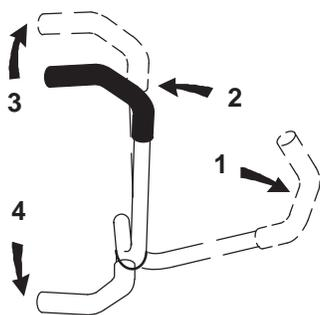

Figure 9
3. To go forward, slowly push the motion control levers forward (Fig. 9).
To go straight, apply equal pressure to both motion control levers (Fig. 9).
To turn, move the motion control lever toward neutral in the direction you want to turn (Fig. 9).
2. To go backward, slowly pull the motion control levers rearward (Fig. 9).
To turn, release pressure on the motion control lever toward the direction you want to turn (Fig. 9).